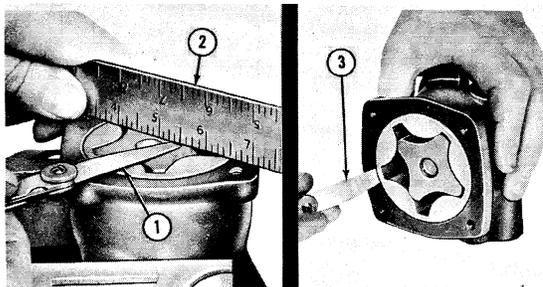

Figure 21
6. Measure the clearance between the inner and outer rotor assembly and the face of the body using a straight edge, Figure 21, and also the rotor to housing clearance. Inspect all remaining components of the pump and replace as necessary. See Chapter 4 for wear limits and tolerance.